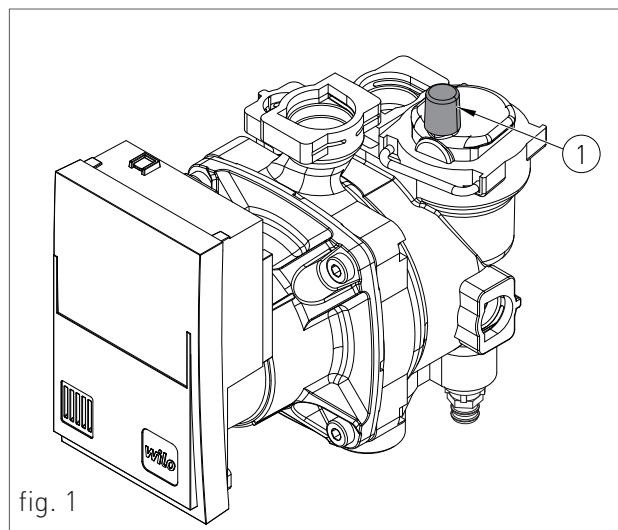

fig. 1
1. slightly loosen the cap of the circulator jolly valve [1-fig. 1] to release the air from the system;